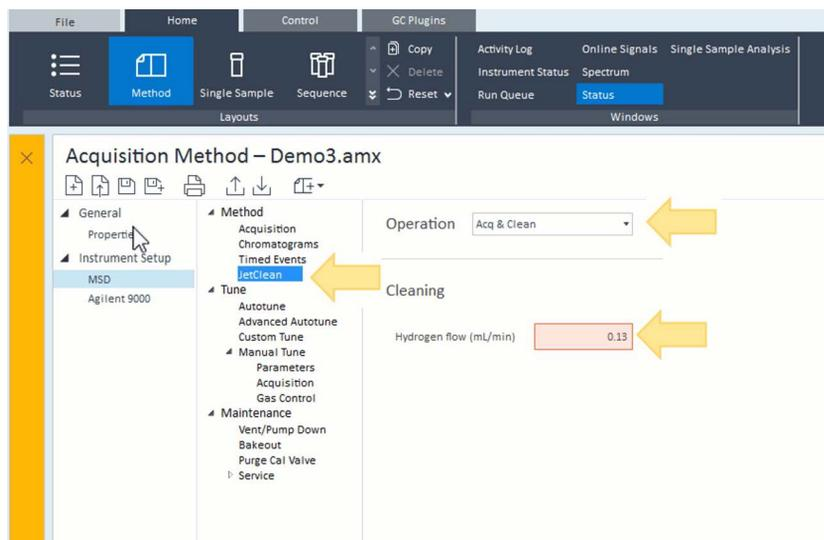

Figure 33. Method Acquisition parameters
- c Click **JetClean**, then, from the **Operation** drop-down, select **Acq & Clean**. This option will not be available if your MSD is not configured with a gas flow controller. (See Figure 33.)